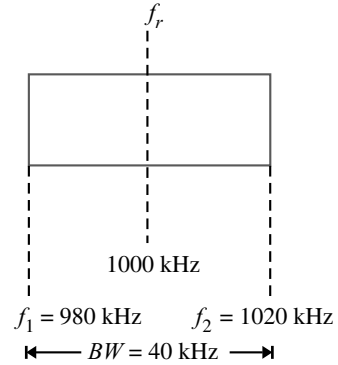

Fig. 13.3
**Illustration.** Consider a tuned amplifier that is designed to amplify only those frequencies that are within  $\pm 20$  kHz of the central frequency of 1000 kHz (*i.e.*  $f_r = 1000$  kHz). Here [See Fig. 13.3],